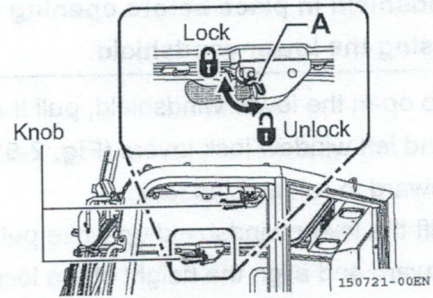

Fig. 2-89
1. Hold the right and left knobs with the corresponding hands while sitting in the operator's seat and push the window lock lever (Fig. 2-89, A) in to release the lock.